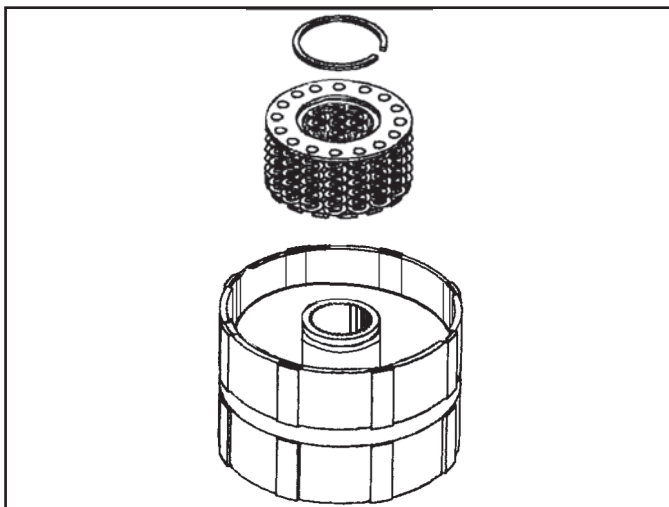

Figure 99
2. Install Saturn's spring return compression fixture (SA9146T) or equivalent and compress the spring. Use snap ring pliers to remove the retaining snap ring. Slowly release the spring tension and remove the fixture and spring assembly (See Figure 99).